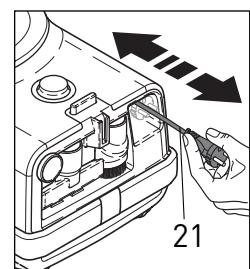

Figure 2
2. Grasp the plug and pull the power cord (21) out from the power cable recess (figure 2). The power cord should be unwound from the cable reel at least two thirds of its length or approx. twenty-five feet. Do not over extend the cord. DO NOT PLUG INTO POWER SOURCE UNTIL STEP 4 BELOW.